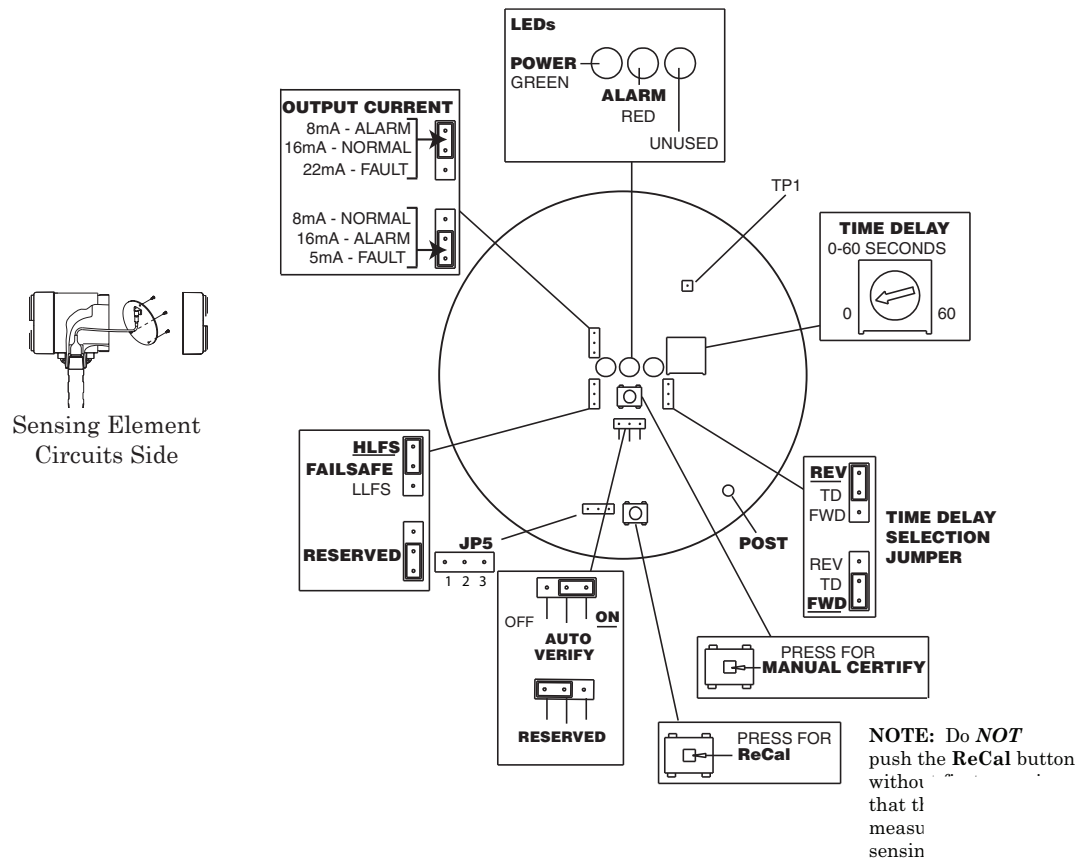

Figure 2-4
The circuit board is located on the sensing element/circuit side of the housing (marked on label). Remove the housing lid to access the status LEDs, time delay adjustment, and configuration jumpers. *See Figure 2-4.*
After the IntelliPoint has been installed with the measured material below the sensing element, press and hold the "ReCal" button (shown in *Figure 2-4*) for five (5) seconds. After five seconds, the two LED's flash for sixty seconds before reset occurs.